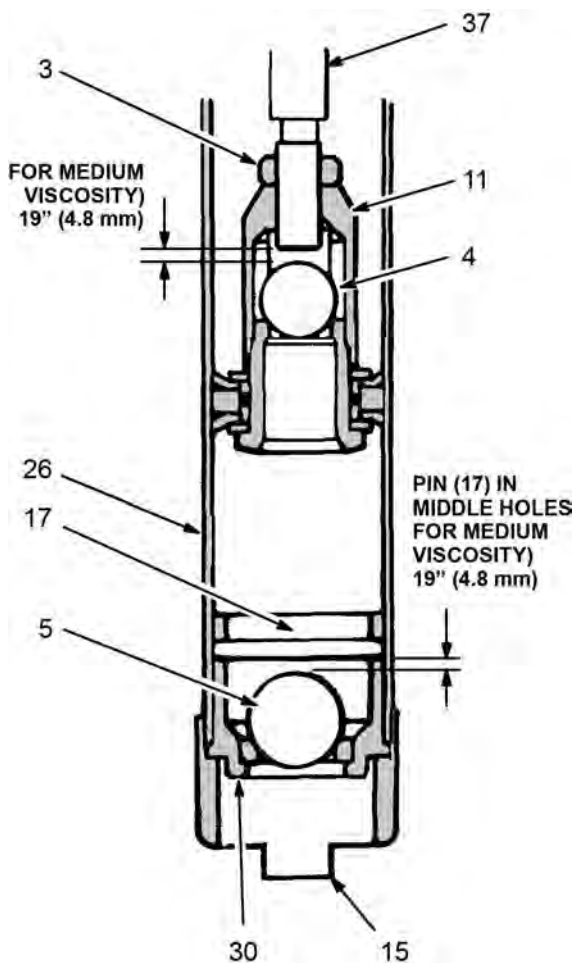

FIG. 3
To adjust the piston ball travel, loosen the locknut (3) and turn the piston (11) counterclockwise to increase the ball travel and clockwise to decrease the ball travel. For medium viscosity fluid, the ball travel should be 0.19" (4.8 mm). See Fig. 3.